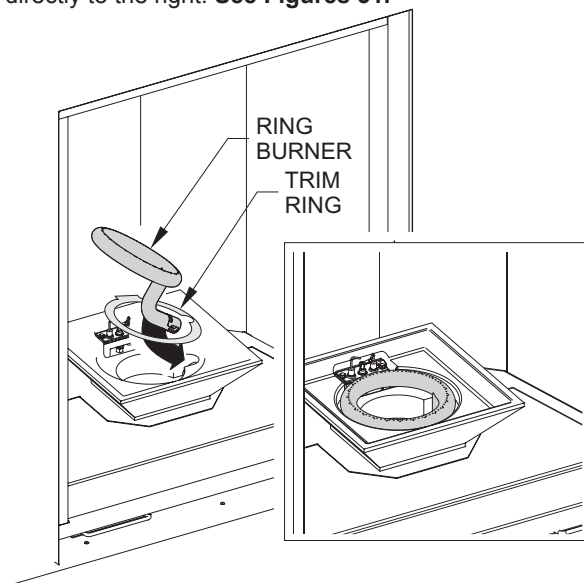

Figure 51
5. Insert Trim Ring and Ring Burner into Media Vessel. Look through the perforated floor material to fit the air shutter over the orifice holder. The Ring Burner air shutter will point directly to the right. See Figures 51.